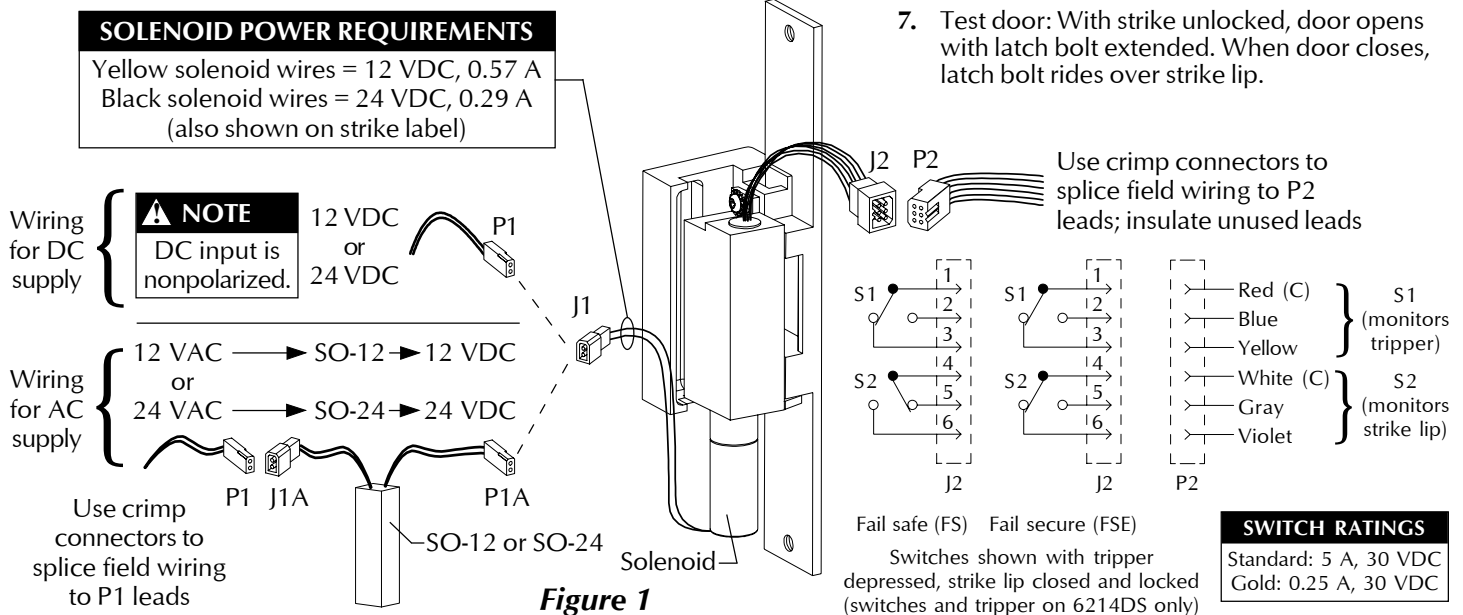

Figure 1
3. Wire strike (Figure 1). (Switches on 6214DS only.)
4. Test strike: Apply solenoid power. Fail secure (FSE) lip unlocks. Fail safe (FS) lip locks. Figure 1 shows status of switches.